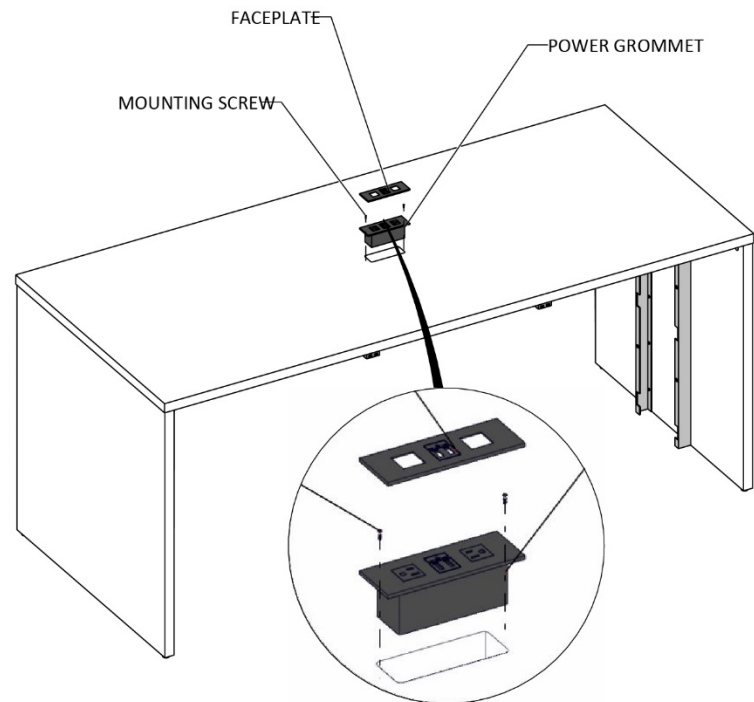

Figure 13
19. Set the power grommet into the hole and then secure it with mounting screws provided, (Figure 13).